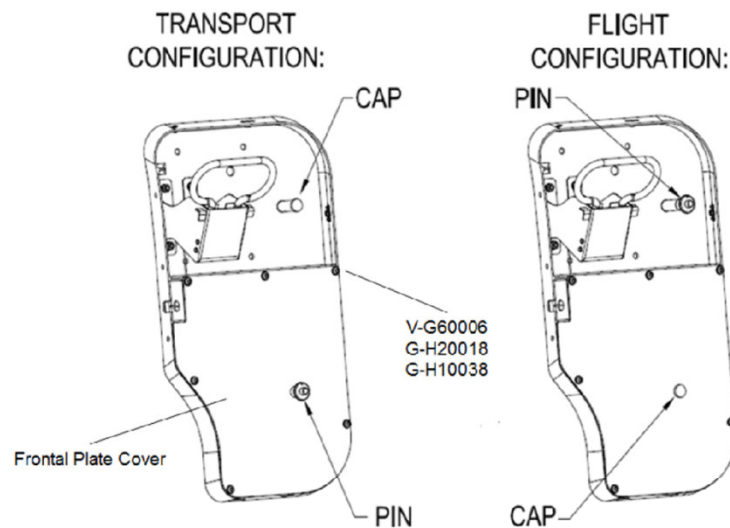

Figure 1 – Transport and flight configuration mode
- (2) Remove the Safety Pin P/N G-C10005 from the Right [Left] Lower Pulley P/N 309877B [309771B].
- (3) Re-install the Frontal plate cover P/N 310865B [310864B], using the six screws P/N V-G60006; refer to the applicable Data Module of the Aircraft Maintenance Manual or ASSEMBLY section of the CMM 25-61-16.
- (a) Restore the Safety Pin P/N G-C10005 in Transport or Flight configuration mode, refer to Figure 1
- (4) If necessary, install the ELS on the helicopter according to applicable Data Module of the Aircraft Maintenance Manual or ASSEMBLY section of the CMM 25-61-16.
- (5) Install the front Fairing by means of screws that hold it on the ELS and helicopter; refer to the applicable Data Module of the Aircraft Maintenance Manual.